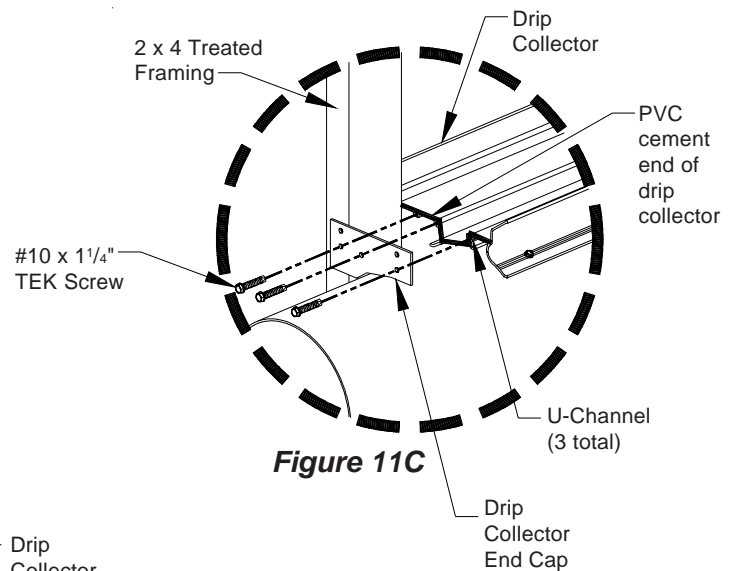

Figure 11C
- 14b) Apply PVC cement to left end of drip collector. On left side of system line up the 3 holes in the drip collector end cap to the 'U' Channels in the drip collector, fasten using (3) #10 x 1/4" TEK screws (provided). **See Figure 11C.**